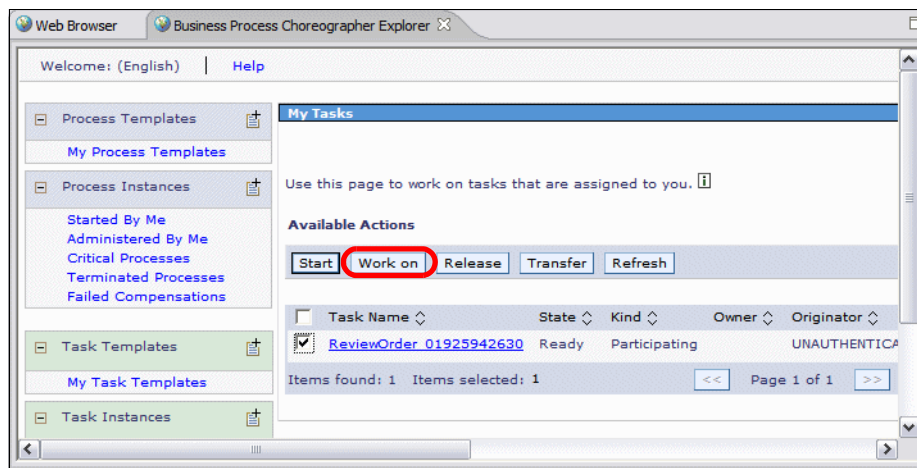

Figure 10-57 BPC Explorer with custom JSPs
- ▶ The BPC Explorer opens with the My Tasks view and the Review Order activity is visible (Figure 10-57).